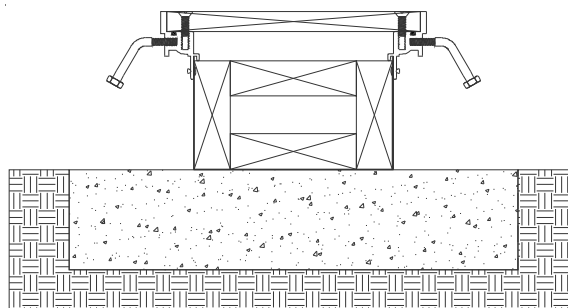

Figure 5
**STEP 6.** Provide continuous wooden bracing inside the trench liner (see Figure 5). This will help ensure that the assembly maintains its shape during the pouring, finishing and curing of the concrete.
**STEP 8.** Place a temporary wooden cover (plywood is recommended) into the frame, attaching it to the frame as shown in Figure 5. This procedure is recommended to protect the cover plate from concrete splatter during the pouring and finishing of the concrete.